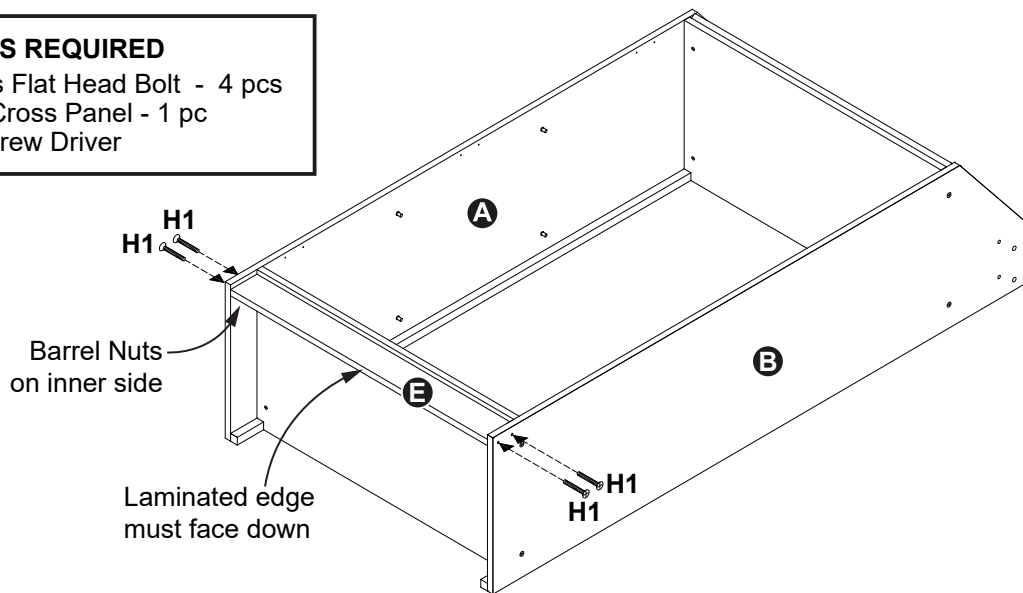

Figure 3
7. Install Part **E** between Parts **A** and **B** and attach it using 4 pcs **H1** Phillips Flat Head Bolts. See **Figure 3**. Tighten, but do Not over tighten or strip out **H1** Bolts.